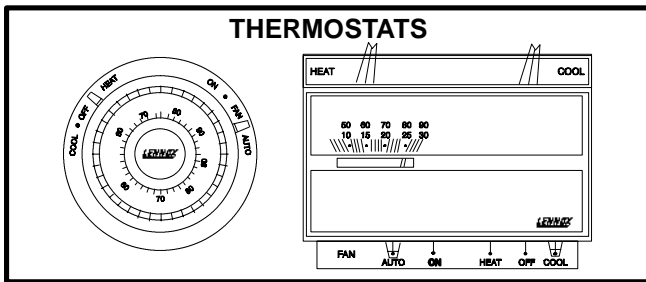

FIGURE 1
- 2 - Set the thermostat to lowest setting. See figure 1.